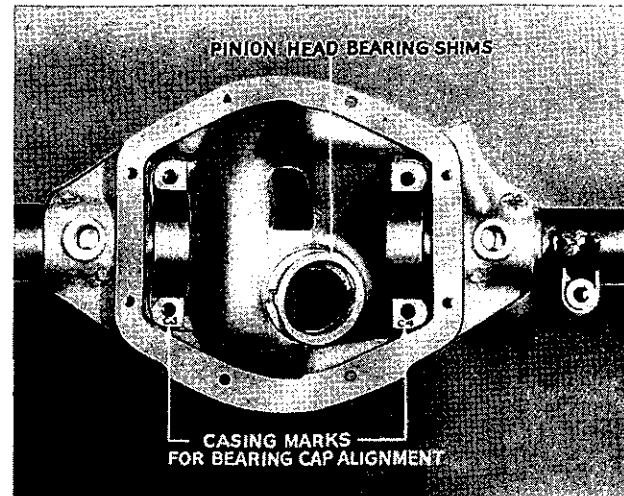

Fig. 7. Showing Axle Casing Markings.
8. Remove the differential bearing caps, noting the markings stamped on the face of these and the correspondingly abutting portions of the casing. The existing relation between the caps and casing must be retained when re-assembling. Fig. 7 shows example of markings.